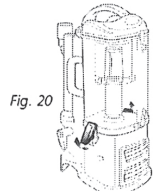

Fig. 20
- 1 Undo the latches on the sides of the dust cup by lifting them up and outwards to remove the dust cup from the motor base. (Fig. 20)